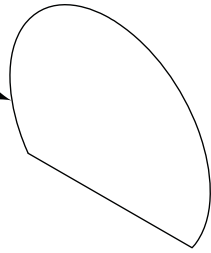

FIG. 2
3. Drill a 3/8" hole in each corners of the template. Using a jigsaw, cut a hole in the wall, following the template. Dry fit the soap dish in opening. Use a level, across the soap dish, to ensure proper placement. Trace guide lines on panel, for alignment when gluing in place. *See Figure 2.*